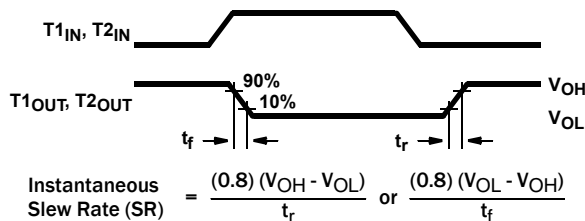

FIGURE 7. SLEW RATE DEFINITION
- See Figure 7 for definition.